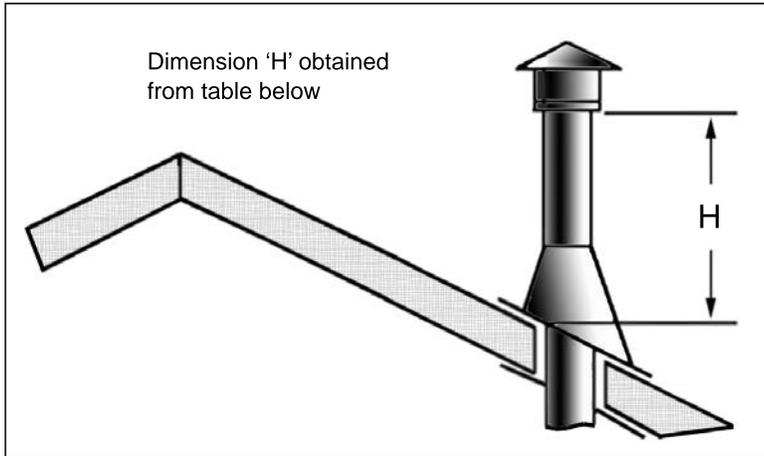

Figure 67: Height of Vertical Termination; Reference Table 8
- Step 4.** Measure roof pitch. Select the proper flashing and storm collar and determine the height above the roof (see Figure 67). A non-corrosive pipe material must be used for all exterior pipe lengths. Seal nail heads with silicone.
Table 7: Minimum 'H' for Figure 67.